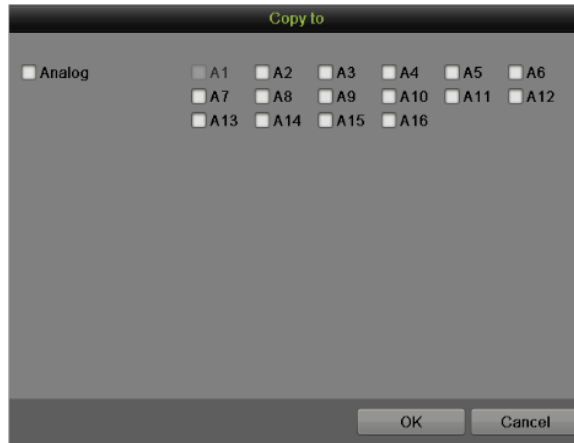

Figure 52 Copy to
6. Repeat the above steps to set record schedule for other channels. If the same schedule can be applied to other channels, click the Copy button to pop-up a Copy to box, as shown in Figure 52.